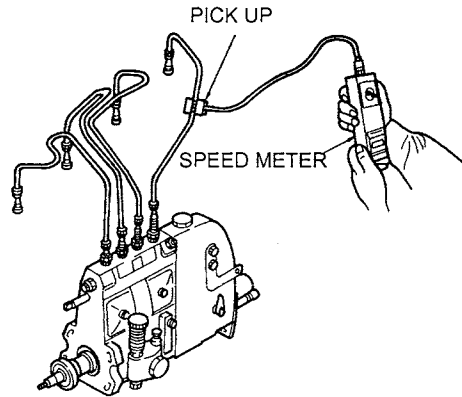

Fig. 1 Measurement of E/G speed
1) Install diesel engine speed meter pickup on and of injection pipes on which the pickup can be easily installed. (See Fig. 1.)
(3) Engine speed measured value through service diagnosis